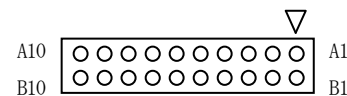

Fig. 9 External remote connector (MIL connector 20P)
⑪ External remote input (Fig. 9 external remote connector)